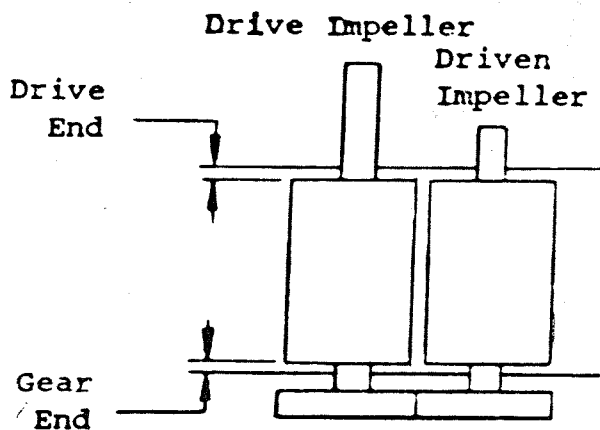

FIGURE 1
4.7 Standard Internal Clearances - Clearances are in inches with unit cold. See Figures 1, 2 and 3. Check clearances in standard rotation and opposite rotation.